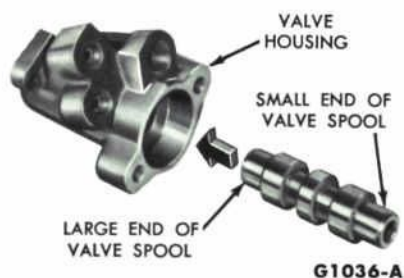

FIG. 35—Valve Spool Installation
4. Insert the valve spool in the valve housing so that the large end of the spool (the grooved valley end of the spool) will be at the centering spring end of the housing and the small end of the spool (both ends are the same size on Fairlane) will face the sleeve end of the housing (Fig. 35). Rotate the spool while inserting it in the housing.